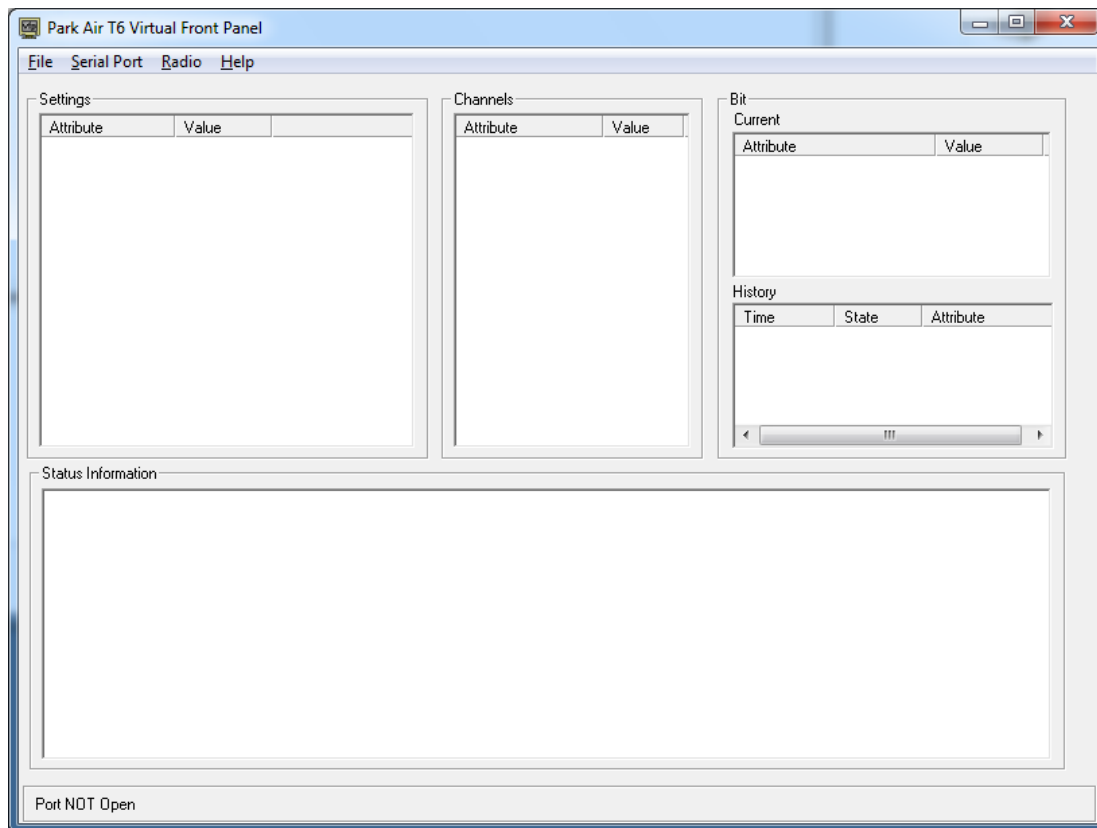

Fig 5-3 Blank VFP Screen
- (1) Using a PC to radio interconnection lead, Park Air part number 17E12600001, connect the radio's front panel Headset/Diagnostics connector to the PC's Com Port (note which Com Port is used).
- (2) Run up the VFP software and check that a blank VFP screen (Fig 5-3) is displayed.